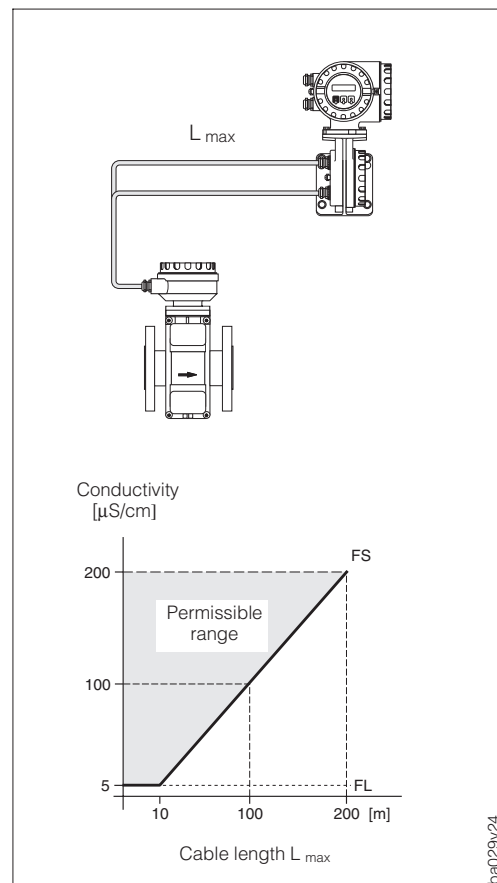

Fig. 19
- The permissible length of cable L_{\max} of more than 10 m is governed by the conductivity of the fluid (see Fig. 19).
- All fluids with a minimum conductivity of $\geq 5 \mu\text{S/cm}$ (demineralised water $\geq 20 \mu\text{S/cm}$) can be measured. This is not dependent on the distance between transmitter and sensor (see Fig. 19).